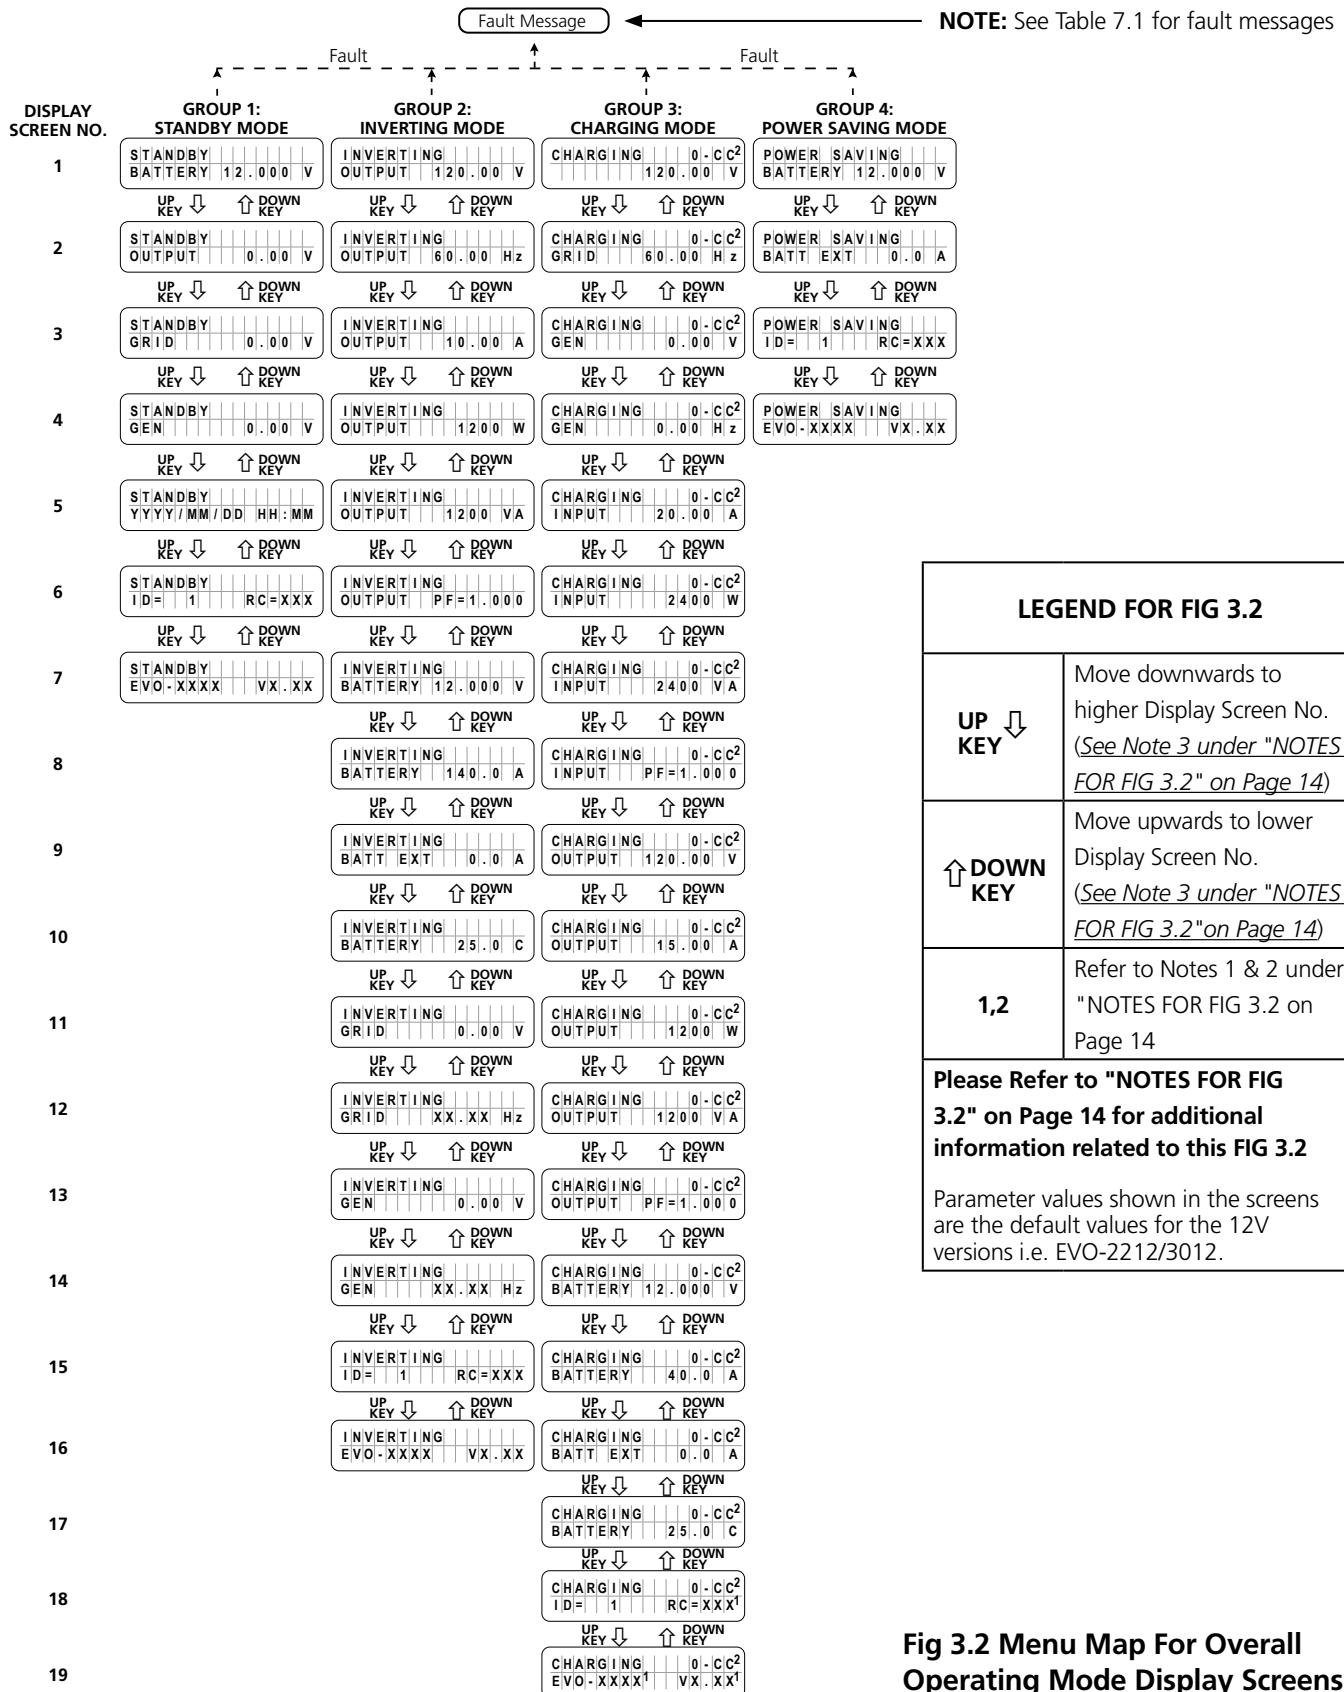

Fig 3.2 Menu Map For Overall Operating Mode Display Screens
For the Standby Mode to be switched ON, the EVO™ should be in ON condition and should be operating in one of the 4 Operating Modes – "Inverting" or "Charging", "Power Saving" or "Online" (See Fig 3.2). When Standby Mode is switched ON, the EVO™ will suspend its Operating Mode.
- i. **On the EVO-RC:** The LCD will show the 1st screen of the 7 Standby Mode Screens (See Screens 1 to 7 of screens shown under Group 1, Standby Mode in Fig 3.2) and Status LED (3, Fig 1.1) will blink once every 5 sec
Fig 3.2 shows Menu Map for the 4 main Operating Modes: (i) STANDBY MODE (ii) INVERTING MODE (iii) CHARGING MODE and (iv) POWER SAVING MODE.
Any screen within Menu Map in Fig 3.2 for the 4 Main Operating Modes can be identified by 2 co-ordinates: Operating Mode Group No (Column) and Display Screen No (Row).
When the unit is operating in Charging Mode, all the relevant operating information related to this mode is displayed through 19 scrollable screens (Screen Nos 1 to 19) as shown in Fig 3.2 under Column 4 - "GROUP 3: CHARGING MODE"
1 st line, right corner display under "GROUP 3: CHARGING MODE" screens in Fig 3.2	Description
For example, in Fig 3.2, the 1st line of information under Column 4 (*GROUP 3: CHARGING MODE*) shows "0-CC" in the right corner. This means that the unit is charging under the following conditions:
NOTES FOR FIG 3.2:
On-Line Mode Screens will be similar to the Off-line Mode Screens shown in Fig 3.2 for Menu Map for Overall Operating Mode Screens. Each On-Line Mode Screen will show “ONLINE” in the right corner of the first line of the screen. Each screen will alternate every 2 sec between Off-Line Mode Screen and On-Line Mode Screen. Examples of Screen 1 of each of the 4 Operating Modes is shown in Figs 3.3(a) to 3.3(d) below:
3.8.1 When this option is selected, the EVO™ will remain in “Charging Mode” as long as qualified AC input voltage is available. During the time AC input is available, 19 scrollable Operating Mode Screens for “CHARGING MODE” will be available as per Menu Map shown in Fig 3.4(a) on page 16 (This Menu Map is also shown in the Menu Map in Fig 3.2 at Column 4 under heading “GROUP 3, CHARGING MODE”)
3.8.2 In case AC input voltage fails or is switched off, EVO™ will NOT change over to “Inverting Mode” but will enter “STANDBY MODE” (**NOTE: AC side loads will lose AC power**). During the time AC input is NOT available, 7 scrollable Operating Mode Screens for STANDBY MODE will be displayed as shown in Menu Map at Fig 3.4(b) on page 16. (Also shown in Menu Map at Fig 3.2 in Column 2 under heading “GROUP 1, STANDBY MODE”)